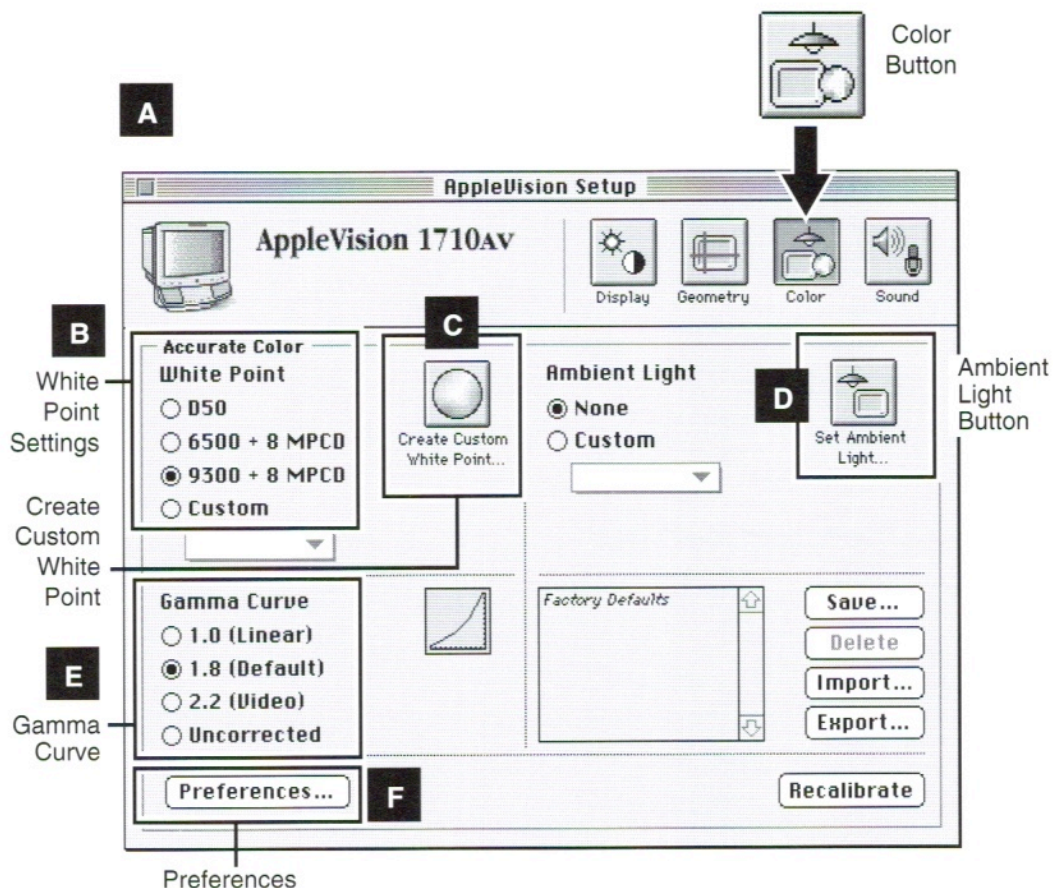

Figure 25. AppleVision Setup Color Button
This section describes how to fine-tune the color on the display. In most cases, you won't need to adjust colors. However, when working with detailed graphics, you may need to match display colors as closely as possible to colors created by a printer or other device. Use the Color window in the AppleVision Setup control panel (see Figure 25) to adjust colors on your display.
2. Click the Color button (see Figure 25).